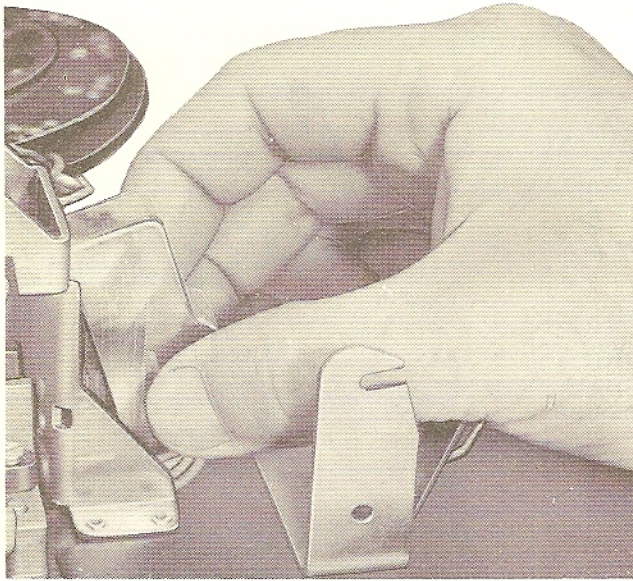

Fig. 26 — Removing Line Switch Cover
(1) Line Switch
- Remove line switch cover by depressing slides between thumb and index finger and tilting cover up and away from mounting (Fig. 26).
- (2) 584C Key (500U and 501U telephone sets only) — clean contacts of key with 265C tool.